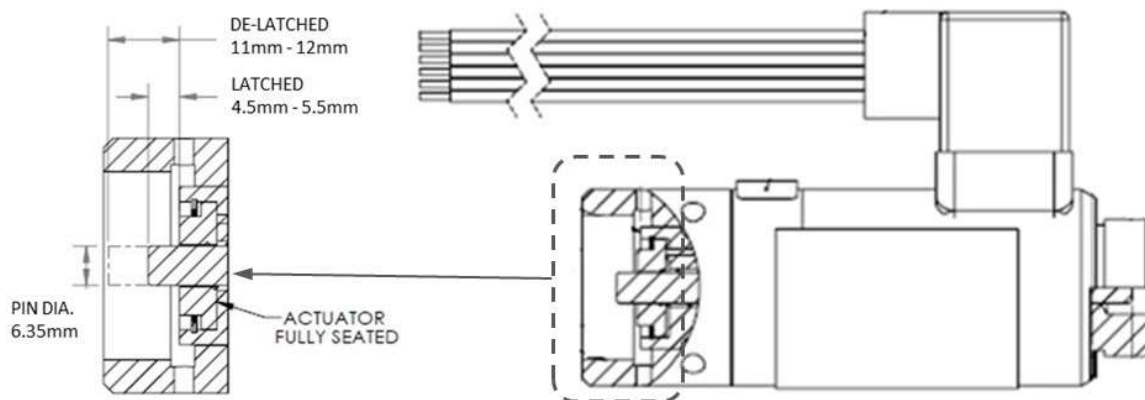

Figure 4-4: Latched and De-latched Pin Position for Electrical Solenoid Actuator
2. Check that the electric solenoid actuator is in the latched / retracted position. If the actuator is in the de-latched / released position, the actuator pin is 11mm – 12mm in length as shown in Figure 4-4. Reset the actuator using the supplied reset tool.